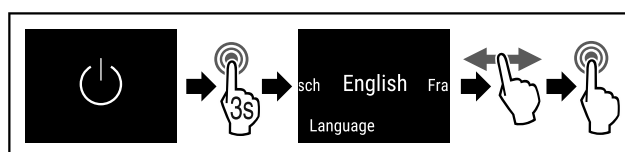

Fig. 54
- ▶ Complete steps (see Fig. 54).